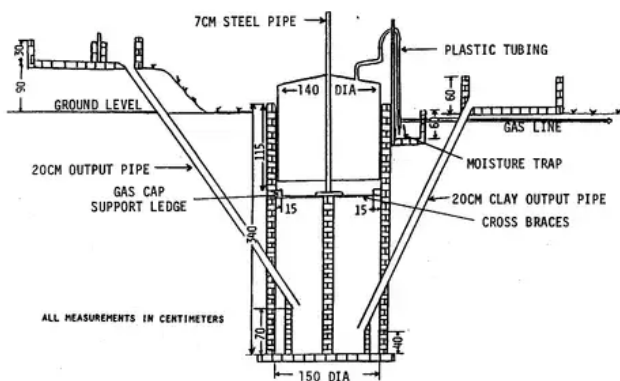

Figure 3. 3-Cubic-Meter Gas Digester
- \* Make a ledge or cornice at two-thirds the height (226cm) of the pit from the bottom. The ledge should be about 15cm wide for the gas cap to rest on when it is empty (see Figure 3).
\* Have one end of the input piping 90cm above ground level and the other end 70cm above the bottom of the pit (see Figure 3).